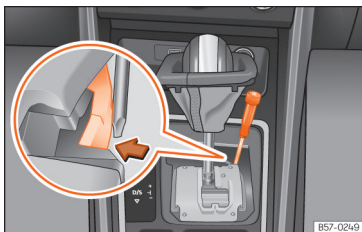

Fig. 140 Gear selector lever: manual release from the parking position.
- Using the flat part of a screwdriver, press the yellow tab sideways and keep it pressed down » » Fig. 140.